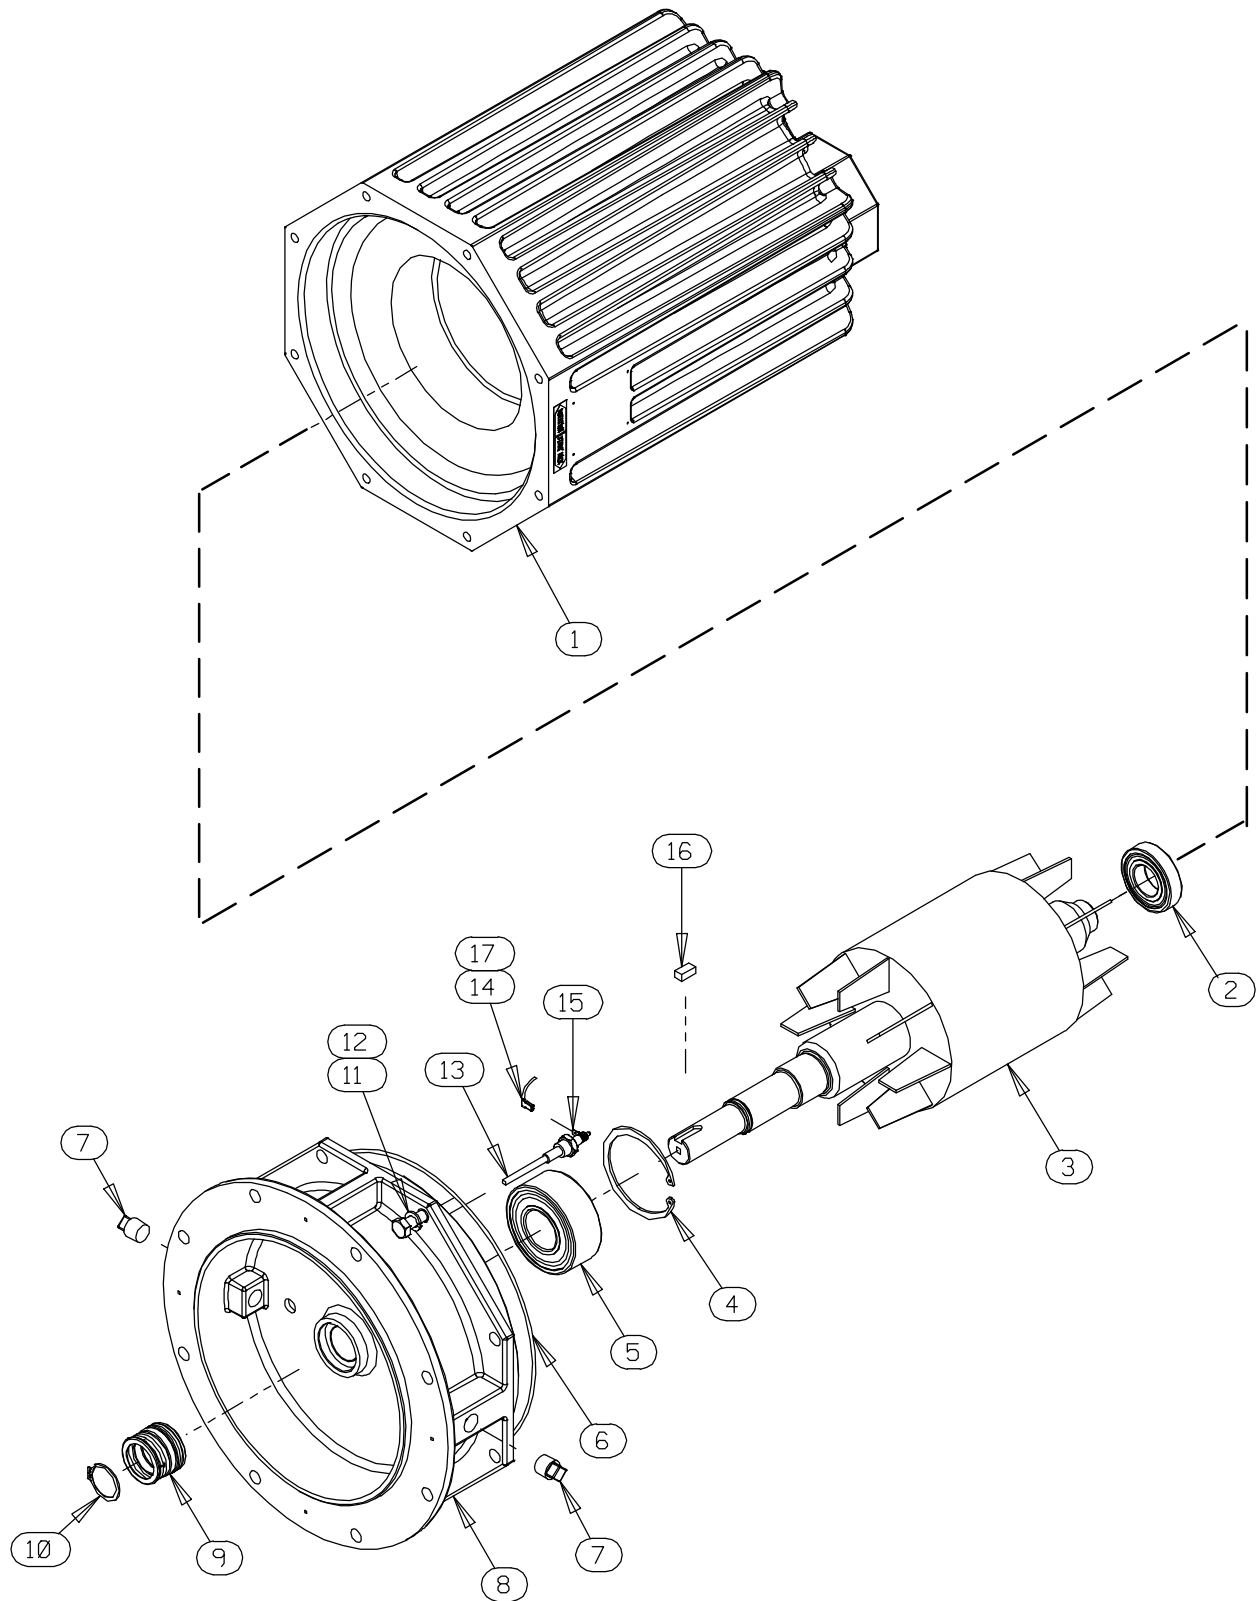

Figure E-2. 47111-758, -759 and -760 Motor Assemblies
(Figure E-2)
To remove the impeller, use two thin-bladed screwdrivers positioned 180° apart to pry on the back of the impeller and “walk” the impeller off the shaft. Use increasingly larger screwdrivers (or wedges) as necessary. After the impeller comes free of the shaft, retain the impeller key (16, Figure E-2).
An alternate method of removing the stationary element is to remove the screws (17) securing the seal plate (15) to the motor assembly (7). Pry the assembled seal plate and stationary element off the shoulder of the intermediate (8, Figure E-2). Remove the O-ring (6) and press the stationary ele-
(Figures E-2 and E-3)